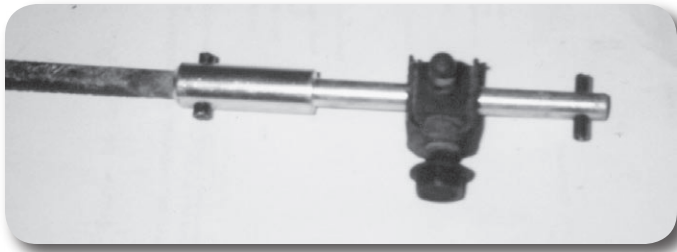

Figure 6
35. Slide the adjuster sleeve onto the extension by aligning the flats on each piece. Leave loose for adjustment. Install a 3/16" x 3/4" roll pin in the end of the extension to retain the adjuster sleeve. Fig. 6 shows the modified linkage assembly.